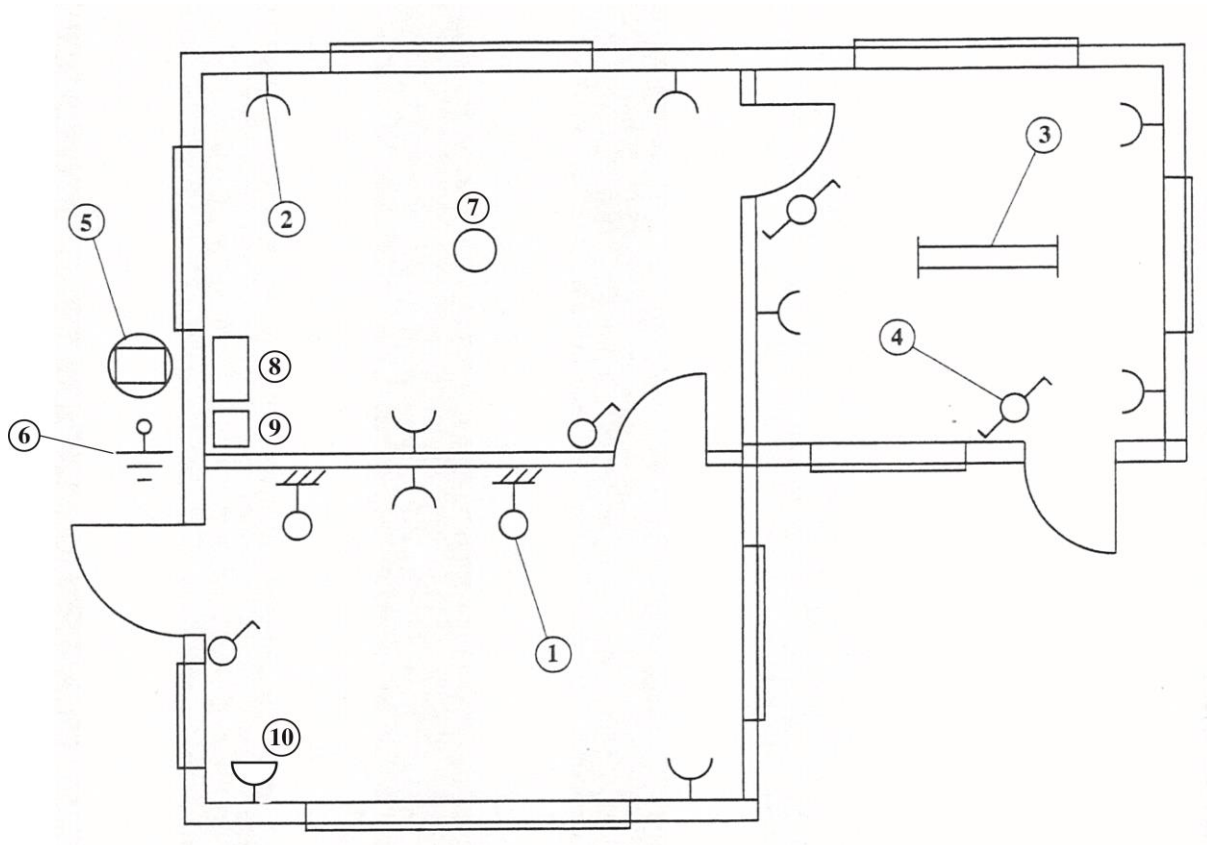

Figure 4
5. Figure 4 shows the electrical floor plan of a building with items labelled 1 to 10.